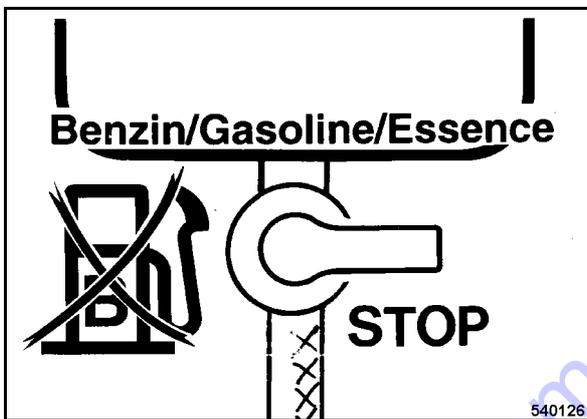

Fig. 36
- Set the fuel valve (Fig. 36) to STOP position (closed).